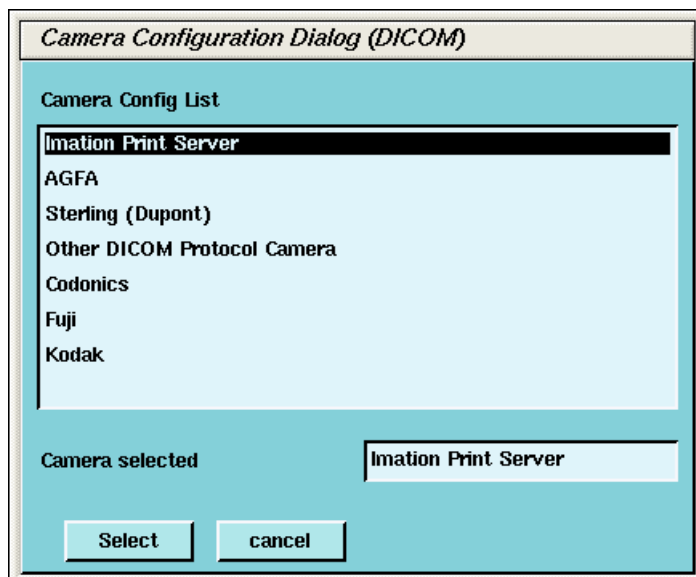

Figure 4-13 Camera Model Dialog (DICOM)
- a.) A list of camera models appears (See Figure 4-13). Select the appropriate model from the list and click SELECT. Clicking SELECT presets all the parameters to that models except the Network parameters.